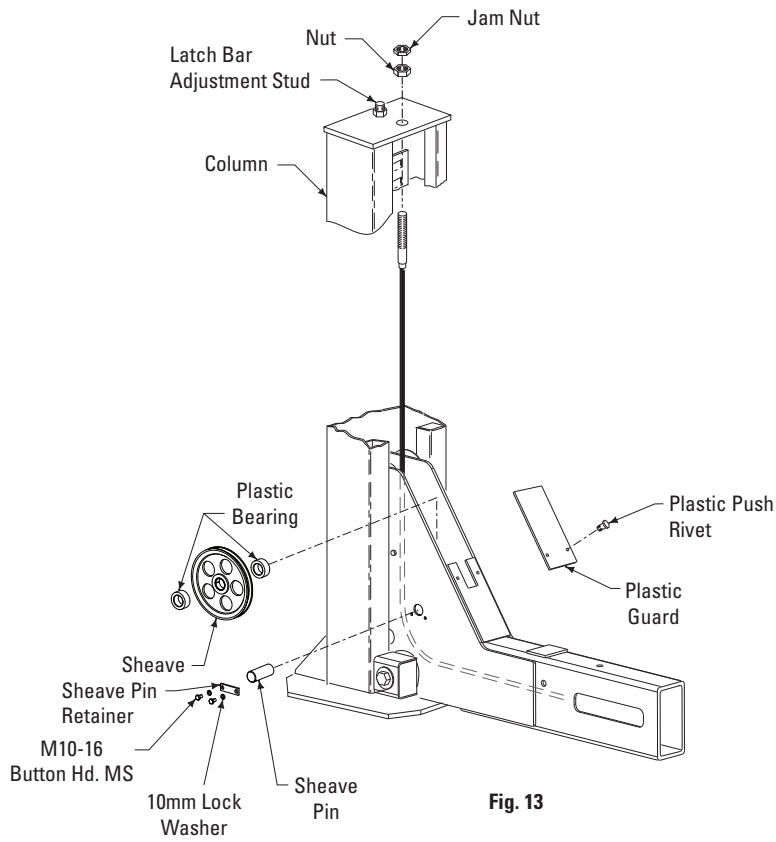

Fig. 13
10. Front Sheave Install: Install yoke end sheaves and plastic bearings. A plastic bearing is placed between each side of the sheave and the sheave spacers, Fig. 13, also refer to inset in Fig. 9. Retain sheave pin with (2) M10-16 bolts and sheave pin retainer. Be sure cable is located in the sheave groove.
11. Cable Install: Attach each cable to column top plate with nut, jam nut, and washer, Fig. 13. Install plastic sheave guard on each yoke end.